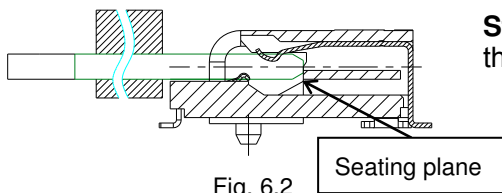

Fig. 6.2
**Step 2nd:** Rotate the module to horizon by hand and make sure the card's edge touch HSG seating plane. (Fig. 6.2).